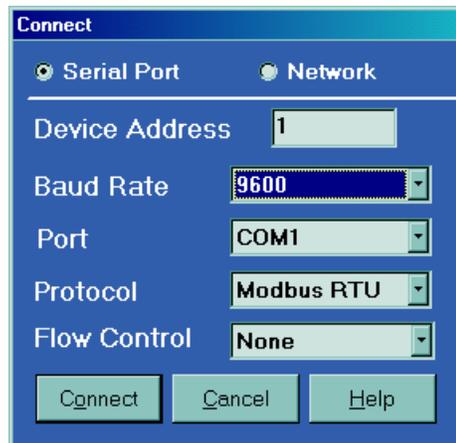

FIGURE 5-7: Serial Port settings
- Avoid both "Star" and "Tee" connections (see Figure 5.7).